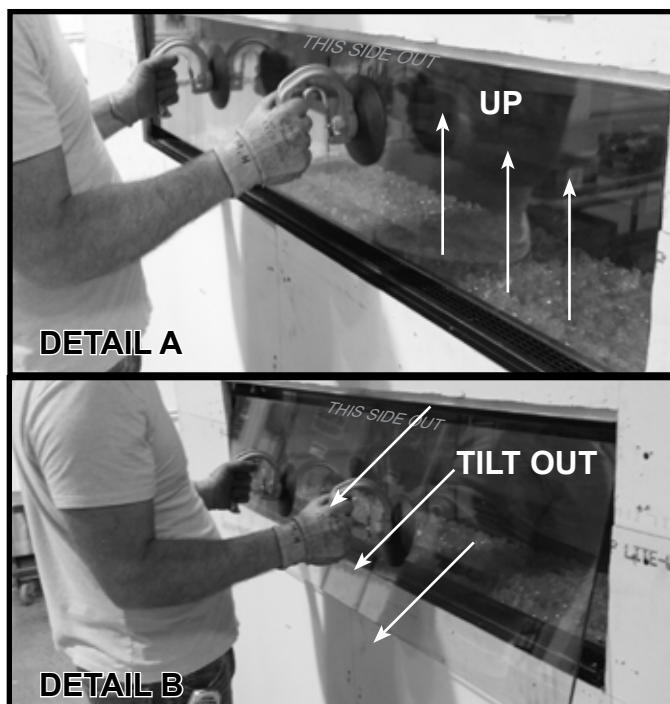

Figure 5.1 Barrier Glass - Clean Face Finish
2. Slide glass straight up behind finishing material. See Figure 5.1, Detail A.
3. Tilt bottom out as shown in Figure 5.1, Detail B. Slide glass down to remove it from the appliance.